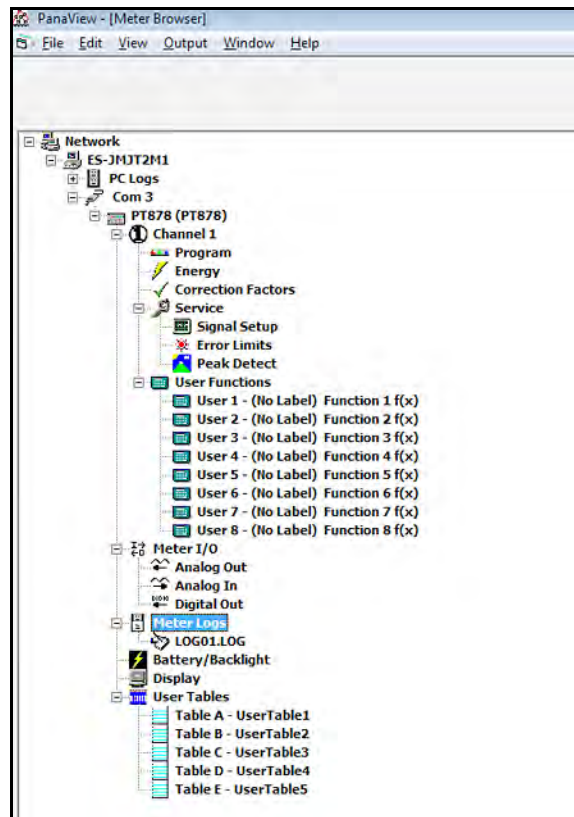

Figure 6: PanaView (Meter Browser)
2. View the available logs from the PT878 in the *Meter Logs* section of the *PanaView Explorer* window. For example, see **LOG01.log** in *Figure 6* below